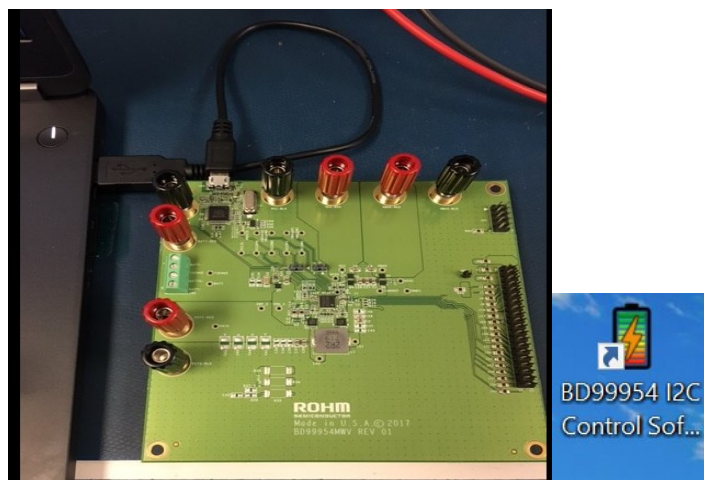

Figure 9. USB-I2C Communication Set Up and Desktop Shortcut
4. The USB-I2C communication is set up by using a USB-micro USB cable as shown in Figure 9.
3. The USB-I2C communication is set up by using a USB-micro USB cable as shown in Figure 9.